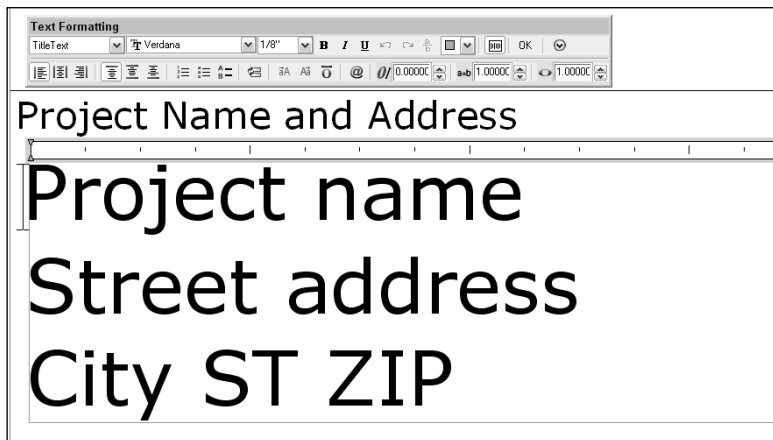

Figure QS-6: Editing text for a drawing.
24. Double-click the Project name text. The Text Formatting toolbar opens, along with a ruler, as shown in Figure QS-6.